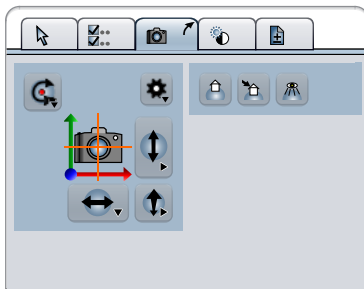

Figure 1.122: Camera Tool
- ▶ The Camera tool is displayed, see Figure 1.122 [▶ 146].